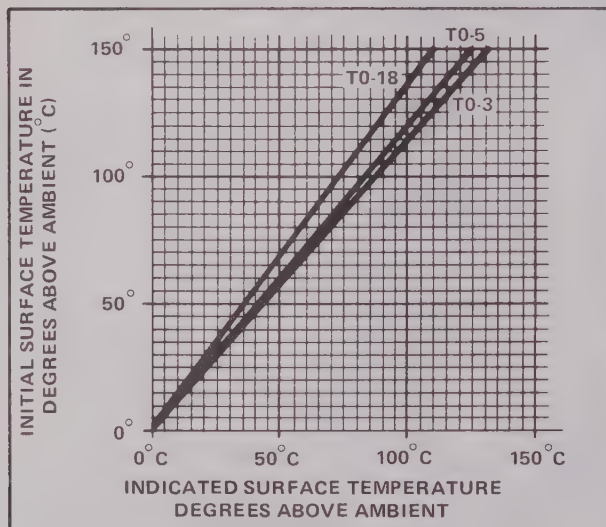

Figure 6-2. INITIAL CASE TEMPERATURE ABOVE AMBIENT vs. METER READING ABOVE AMBIENT
3. To determine the actual surface temperature of a device, both the heat-sinking and steady-state errors must be considered. The correction curve given in Figure 6-2 approximates the effect of both error sources on TO-3, TO-5 and TO-18 transistor cases.